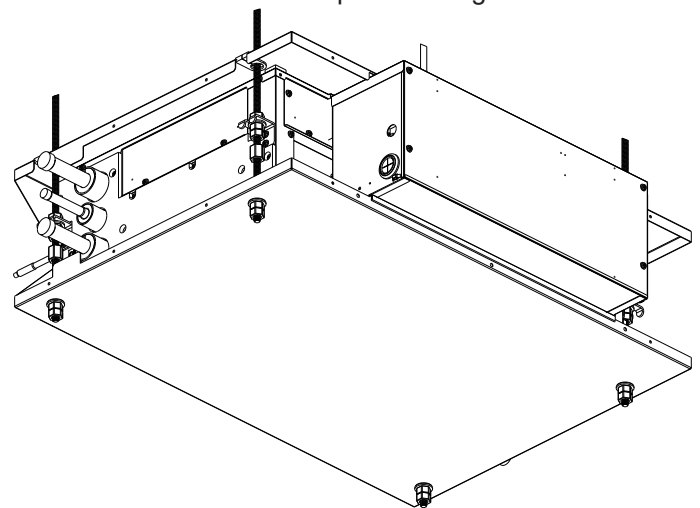

FIGURE F.6
- 1.9** Installation of the top and bottom panels is complete and should match the depiction in Figure F.6.